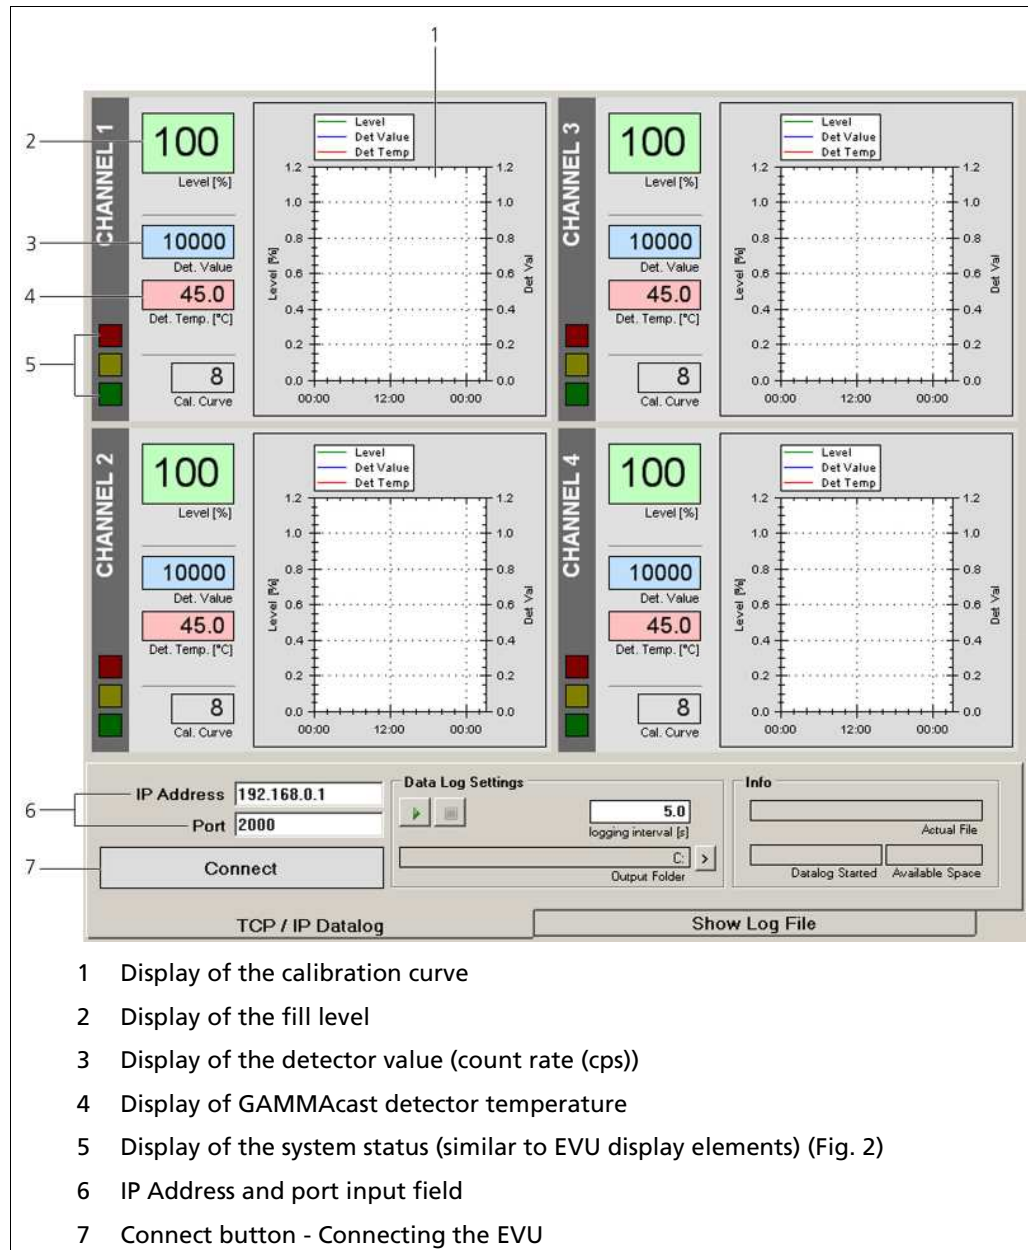

Fig. 37 Start Page, Data Log Viewer Software
1. Enter the EVU IP address in the input field (Fig. 37, Pos. 6).
2. Click on **<Connect>** to establish a connection (Fig. 37, Pos. 7).